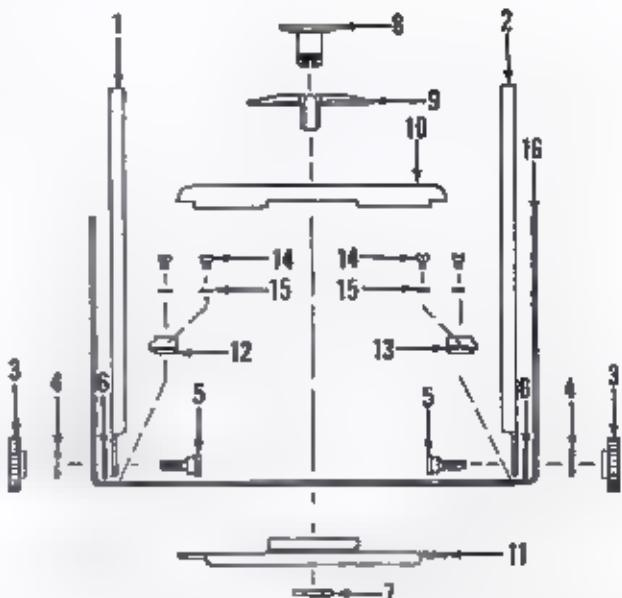

Figure 9A. FRONT STANDARD ASSEMBLY
f. Apply paraffin to two sliding surfaces of two front frame locking studs (4) and assemble studs in opening between bellows base frame and front frame assembly.
g. Spread two sides of front standard assembly (18) and assemble the above sub assembly, using flat washer (3) between front standard and supports on two sides.
h. Assemble two flat washers (2) and two locking knobs (1). Stake ends of locking studs (4).
U.1. FRONT STANDARD ASSEMBLY - DISASSEMBLY AND REASSEMBLY (Figure 9A)
- Remove right support (1) and left support (2) by removing locking knobs (3), flat washers (4),